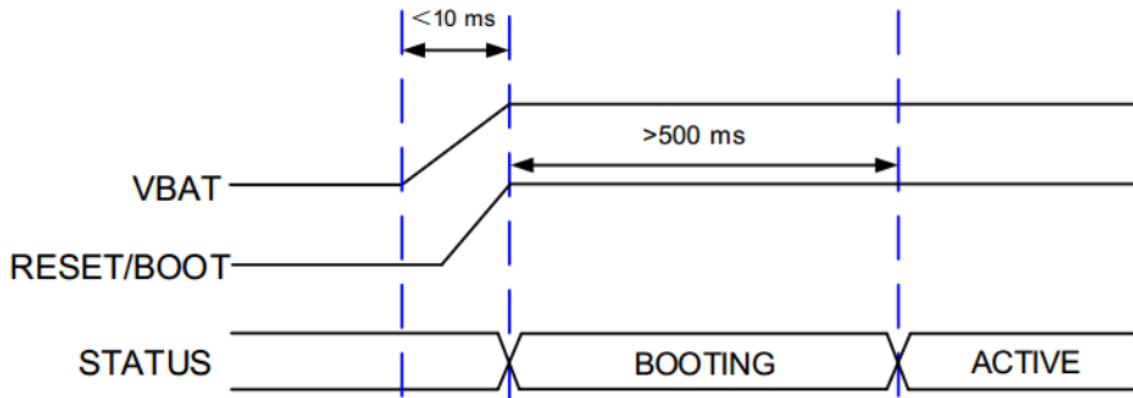

Figure 11 NB chip power on electric timing diagram
1) The pull-up resistor of the WAKEUP pin of the NB chip is very weak and tolerant to interference. To avoid abnormal wake up of the module in the dormant state, add RC filter circuit in the WAKEUP pin(as shown in Figure 11). No this RC circuit exists inside the module,
2) If the external MCU GPIO is connected to the WAKEUP pin of the module through triode (as shown in Figure 11), the leakage current of the triode cut-off state is required to be less than 0.5uA, because the internal pull-up of WAKEUP is weak and the WAKEUP pin below 1.2V. It is possible that the NB chip can not be awakened by the WAKEUP pin in a dormant state.
- ① With a MOS tube instead of the triode, most MOS leakage current is small.
- ② The pull-up circuit is reserved on the circuit (as shown in Figure 11). The voltage range of VCC is 1.8V~3.6V and often open. Do not use the electricity from the NB module.